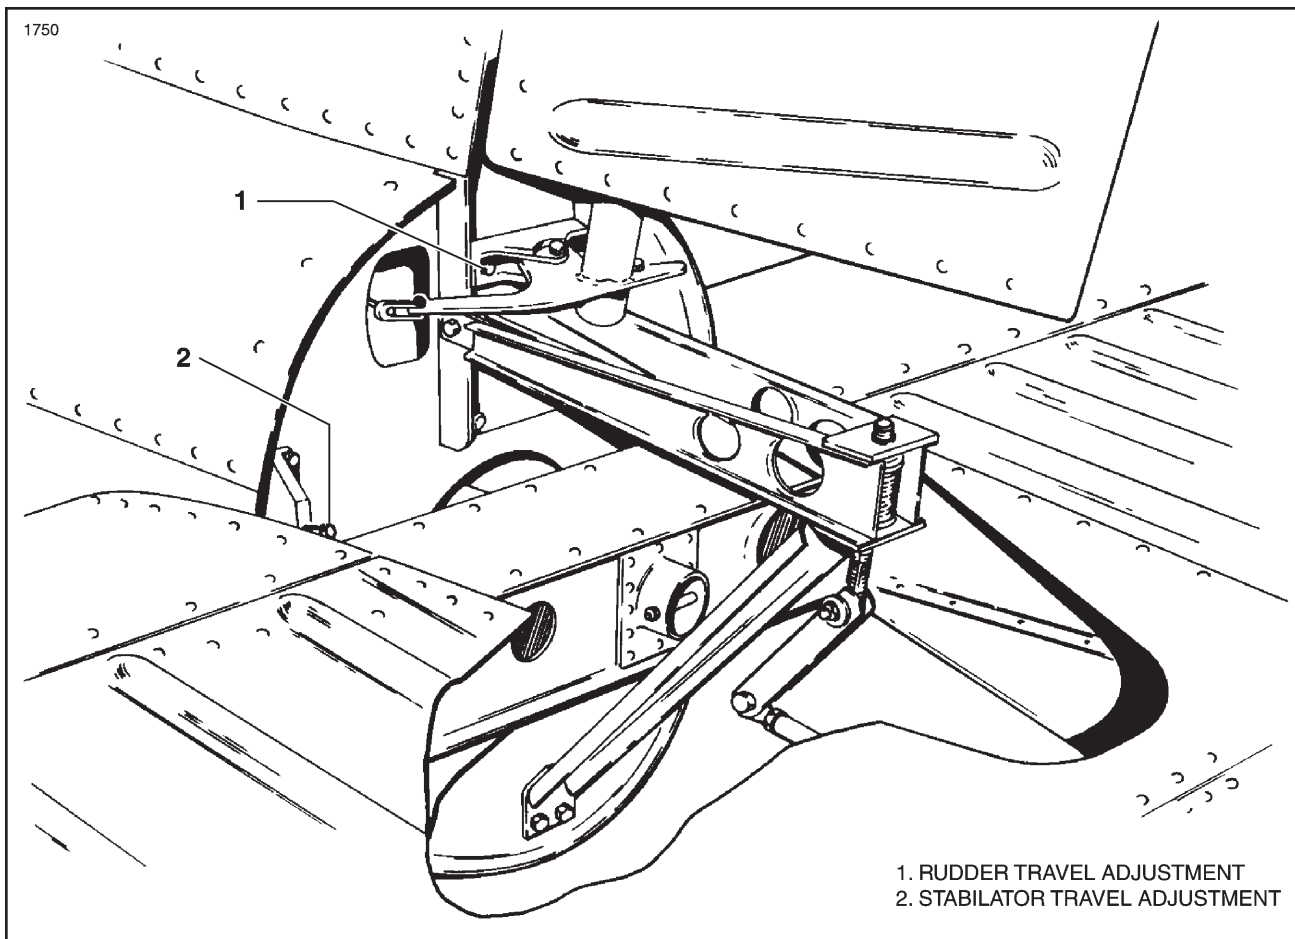

Figure 5-14. Rudder and Stabilator Travel Adjustments
4. Should the rudder travel be incorrect showing a gap between the tool and any part of the control surfaces, the tail cone fairing should be removed and the stops reset to obtain correct rudder travel. (Refer to Figure 5-14.)